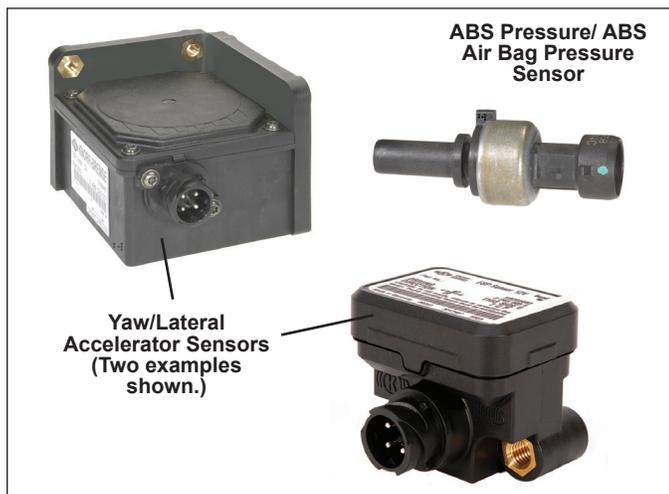

FIGURE 5 - YAW AND ABS PRESSURE/ABS AIR BAG PRESSURE SENSORS
- Bendix® YAS-60™ or YAS-70X™ Yaw Rate/Lateral Acceleration Sensors (typically mounted to a cross-member near the back of the vehicle cab). See Figure 5.
The ABS Pressure sensors provide the Controller with an indication of driver-applied brake pressure. One is installed in the primary air brake circuit, and another is installed in the secondary air brake circuit. See Figure 5.
The ABS Air Bag Pressure Sensor provides the Controller with an indication of the vehicle load. It is typically installed in one of the suspension air bags. See Figure 5.
Bendix® brand yaw rate/lateral acceleration sensors are used to provide the Controller an indication of vehicle lateral acceleration and rotation around the vertical axis. This information is provided to the Controller, utilizing a dedicated serial communications link that is shared with the Bendix® SAS-60™ sensor. The Controller supplies the power and ground inputs to the yaw rate sensor. See Figure 5.